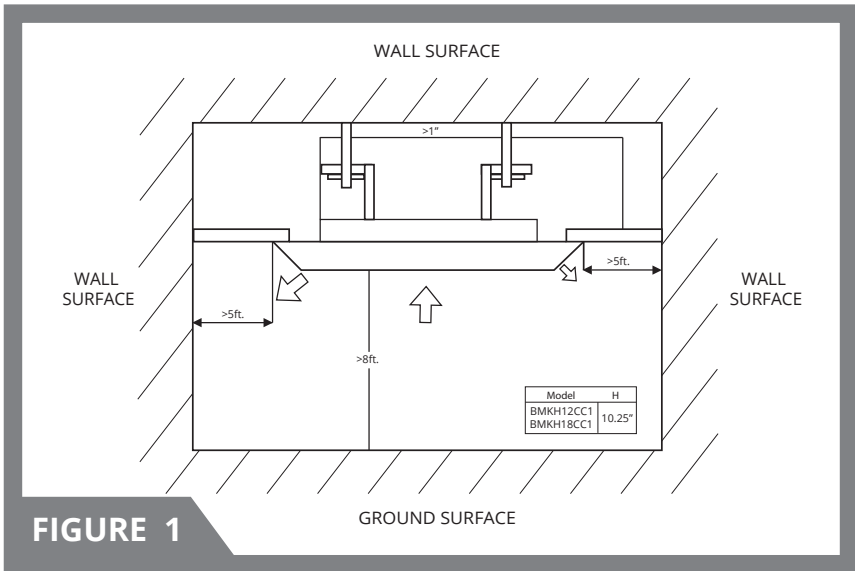

FIGURE 1
Clearance Requirements (see Fig. 1)
- Check the clearance requirements (see Fig. 1)